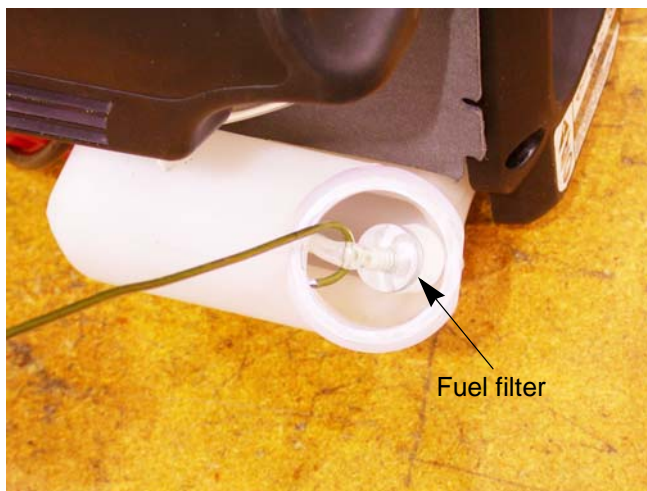

Figure 5.1
2. Inspect the fuel filter. If it is dirty, replace it following the steps described in Chapter 2: Maintenance. See Figure 5.1.